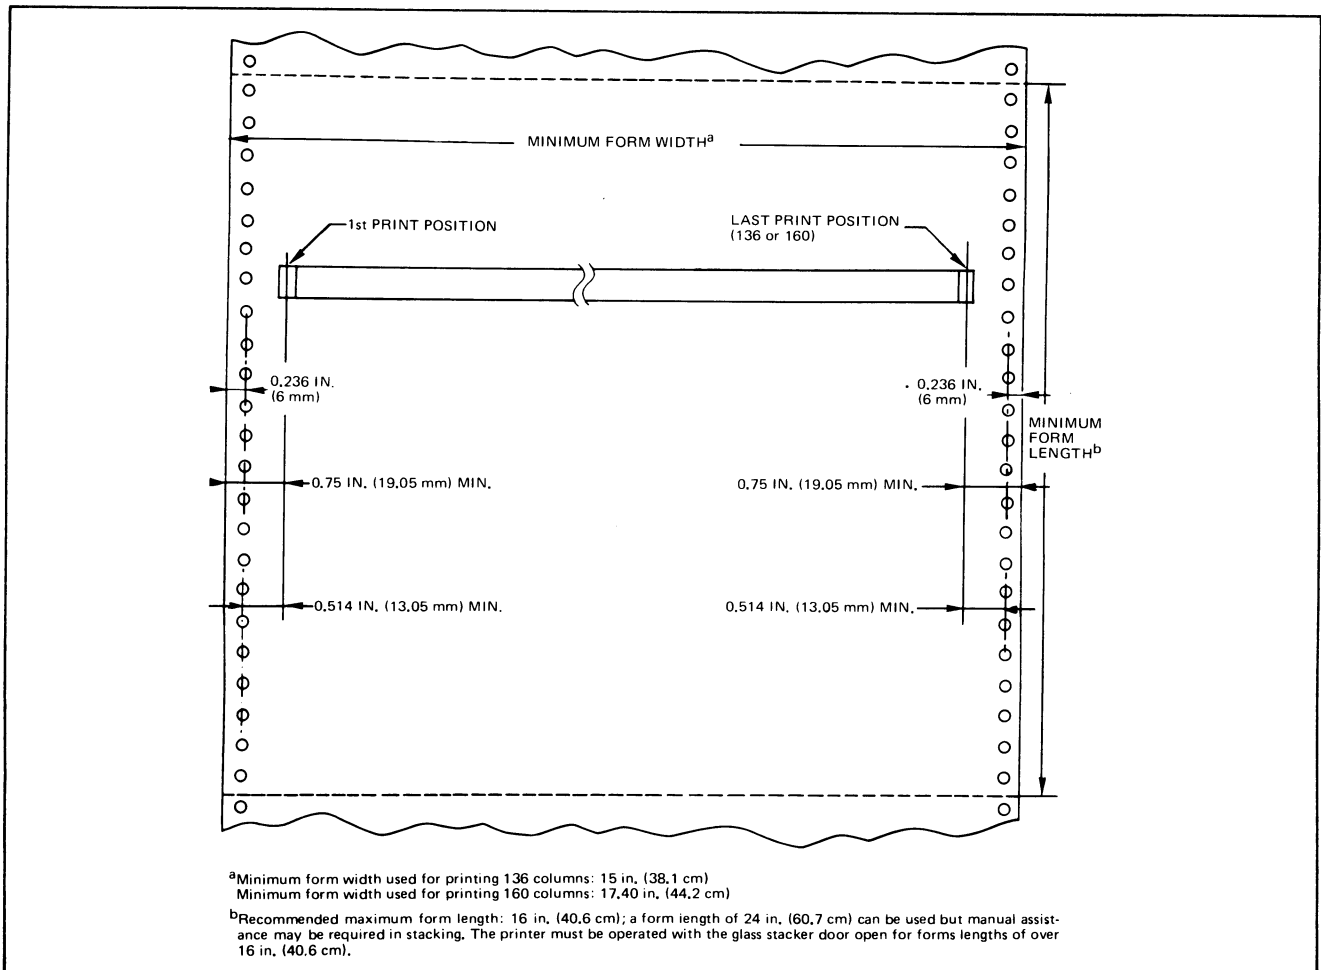

Figure A-2. Minimum Form Width
- Minimum width: 4 in. (10.2 cm) (See Figure A-2.)